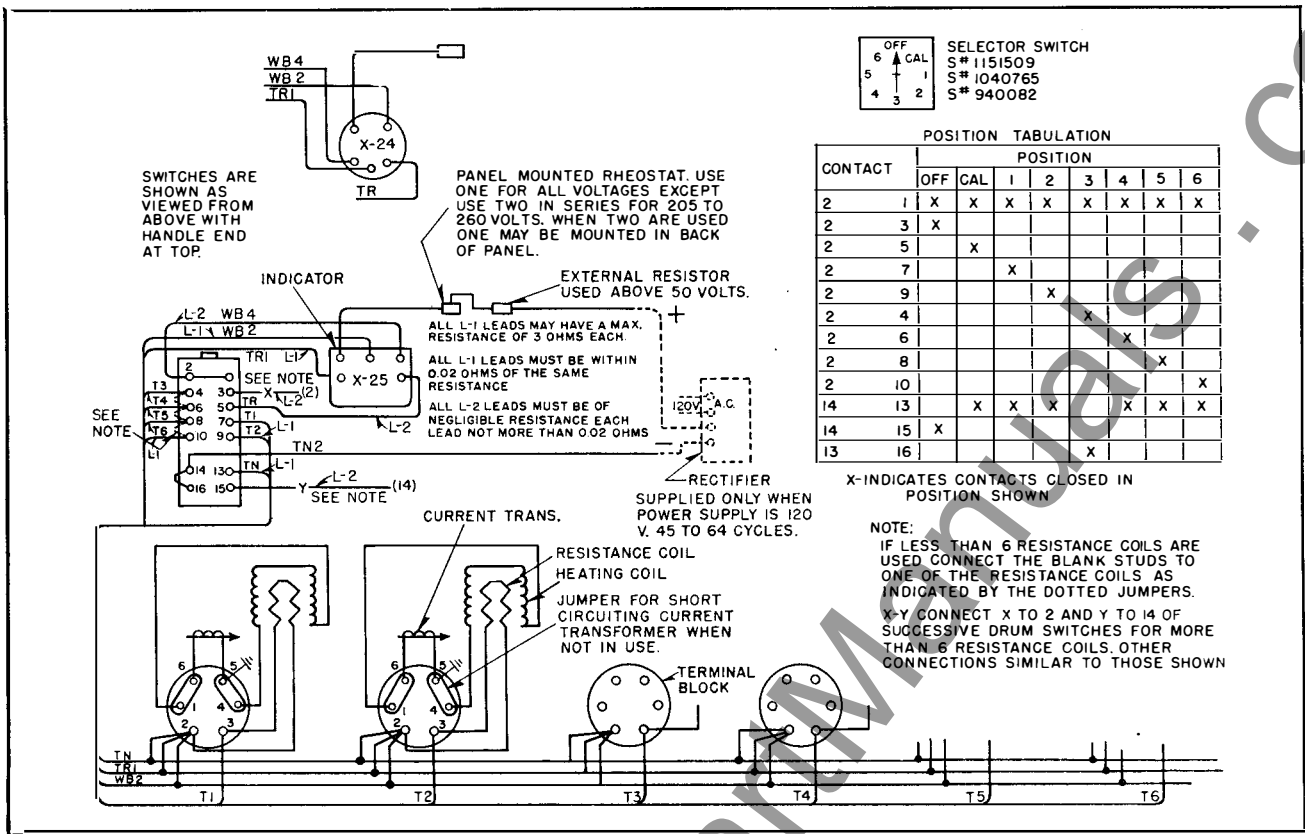

FIG. 2. Wiring Diagram for Temperature Indicator.
6. Mount the temperature indicator and resistance bridge on the switchboard and connect to the terminal box on the transformer as shown in Fig. 2 using 19-0226 (9700 C. M.) rubber-insulated weatherproof cable, or larger.
Connecting the test resistor across the open leg of the bridge would cause the instrument to indicate 0°C provided the voltage was right and there was no unbalance due to lead resistance. The lead resistances are balanced out by connecting one end of the test resistor to point 2 by lead 2-TR1 having the same resistance as 2-WB2. The voltage is then increased by adjusting the rheostat until the instrument indicates 0°C. The bridge has now been calibrated and temperature measurements may be made by connecting the embedded resistance coils into the circuit one at a time by means of a drum switch as shown in Fig. 2. The Type W selector switch provides overlapping contacts up through terminal No. 10, thus preventing the possibility of